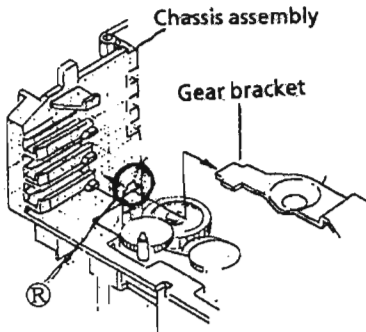

Fig. 2-19
3. Remove the gear bracket from the chassis ass'y's ③ securing top of the gear bracket. (See Fig. 2-19.)